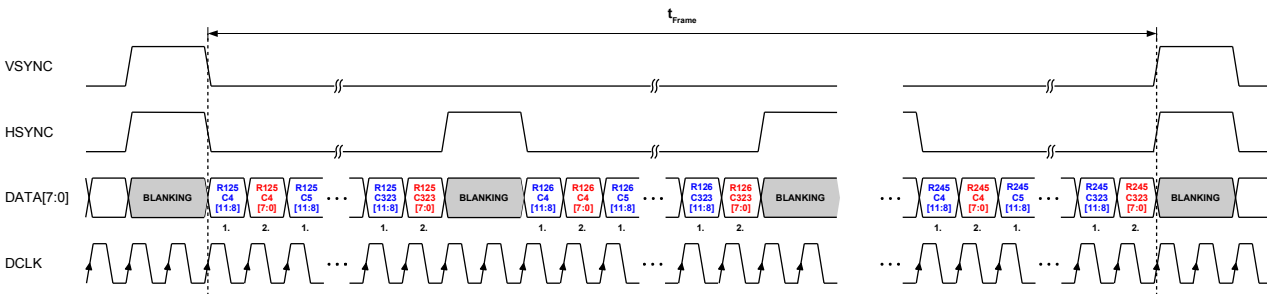

Figure 29: **msb/lsb** split mode
- msb/lbs split mode: Transfers 12 bit pixel data with MSByte leading and LSByte trailing with 2x DCLK. Refer to Table 13 and Figure 29.